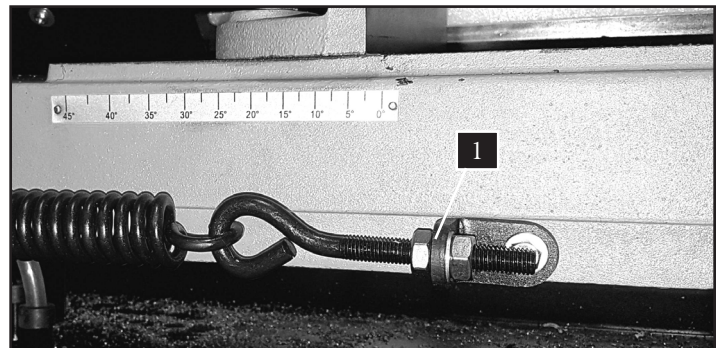

Fig. 34
5. If adjustment is necessary, loosen the hex nut and adjust the tension to approximately 11 - 13 lbs by turning the bow weight bolt (Fig. 34 - 1).